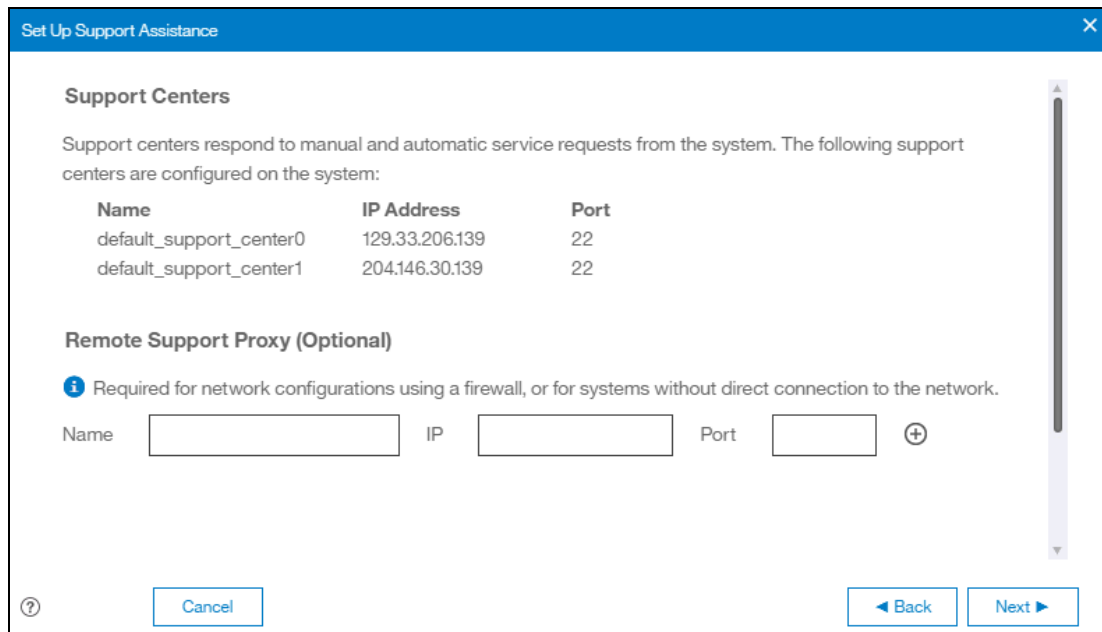

Figure 7-69 Remote Support wizard proxy setup
- The next window, shown in Figure 7-69, lists the IBM Support center's IP addresses and SSH port that will need to be opened in your firewall. You can also define a Remote Support Assistance Proxy if you have multiple FS9100s or IBM Spectrum Virtualize systems in the data center, allowing for firewall configuration only being required for the Proxy Server rather than for every storage system. Because we do not have a proxy server in our environment, we leave the field blank and then click **Next**.